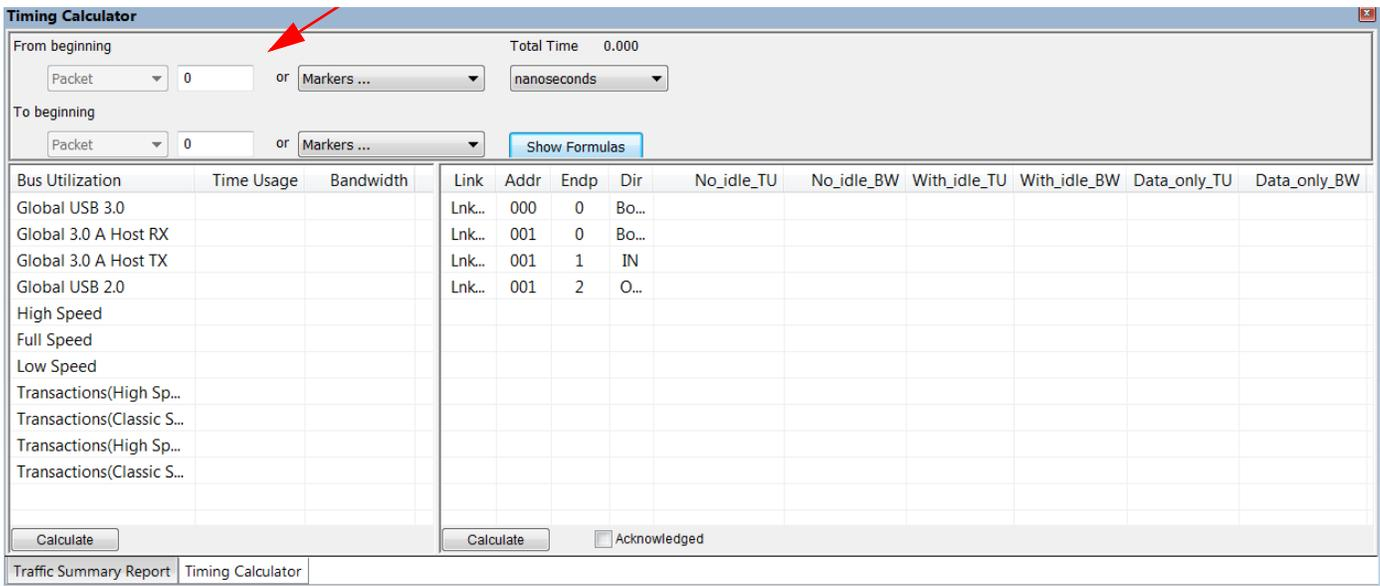

Figure 9.8: Timing Calculations Report
- Click **Calculate** (see red arrow in Figure 9.8 on page 309) in the left side to display the Bus Utilization, Time Usage, and Bandwidth. Bus Utilization is: